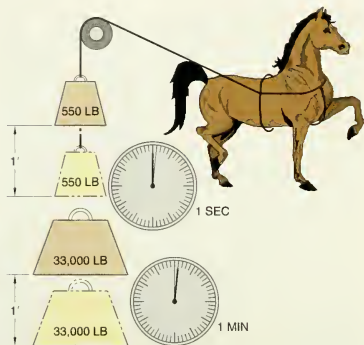

Figure 5-26. One horsepower is the amount of energy required to lift 33,000 lb 1' in 1 min.
Mechanical energy is often expressed in horsepower (HP). One horsepower is the amount of energy required to lift 33,000 lb 1' in 1 min. One horsepower equals 550 ft lb/sec. See Figure 5-26. Mechanical horsepower is found by applying the formula: